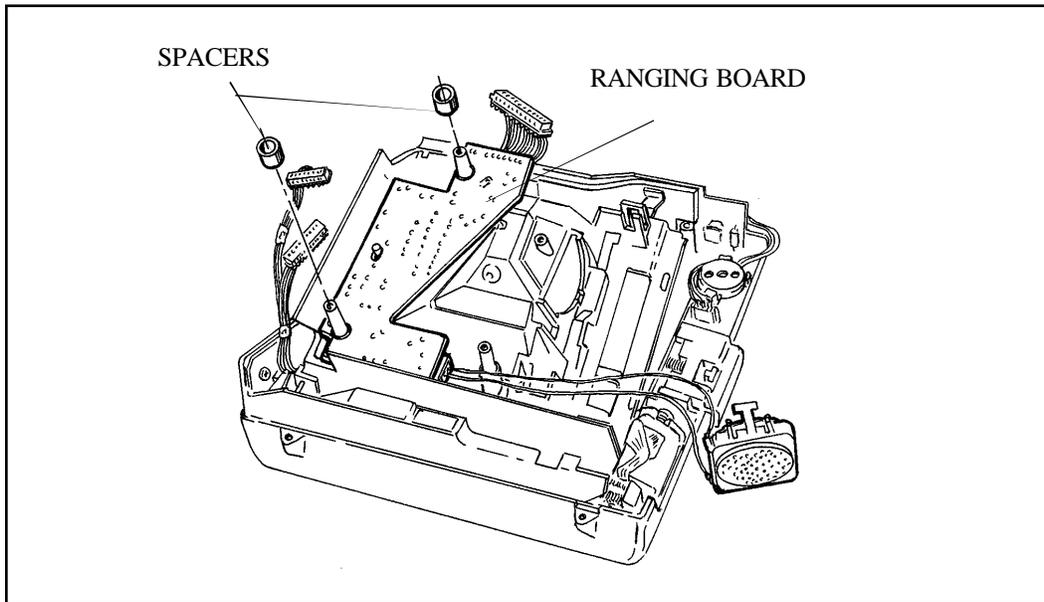

Figure 3-16. Removing Ranging PC board
- c. Remove the two tubular Spacers between the Exposure and Ranging Boards, and remove the Ranging Board with the Transducer connected to it (Figure 3-16).